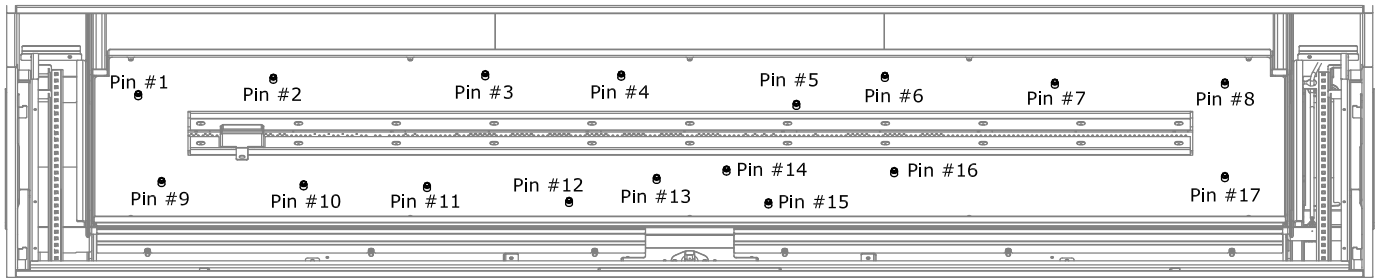

Figure 6 - Log Pin Location
1. Locate the preinstalled pins on the burner media tray. See Figure 6. You will install the log set directly on the media tray before installing any crushed media.